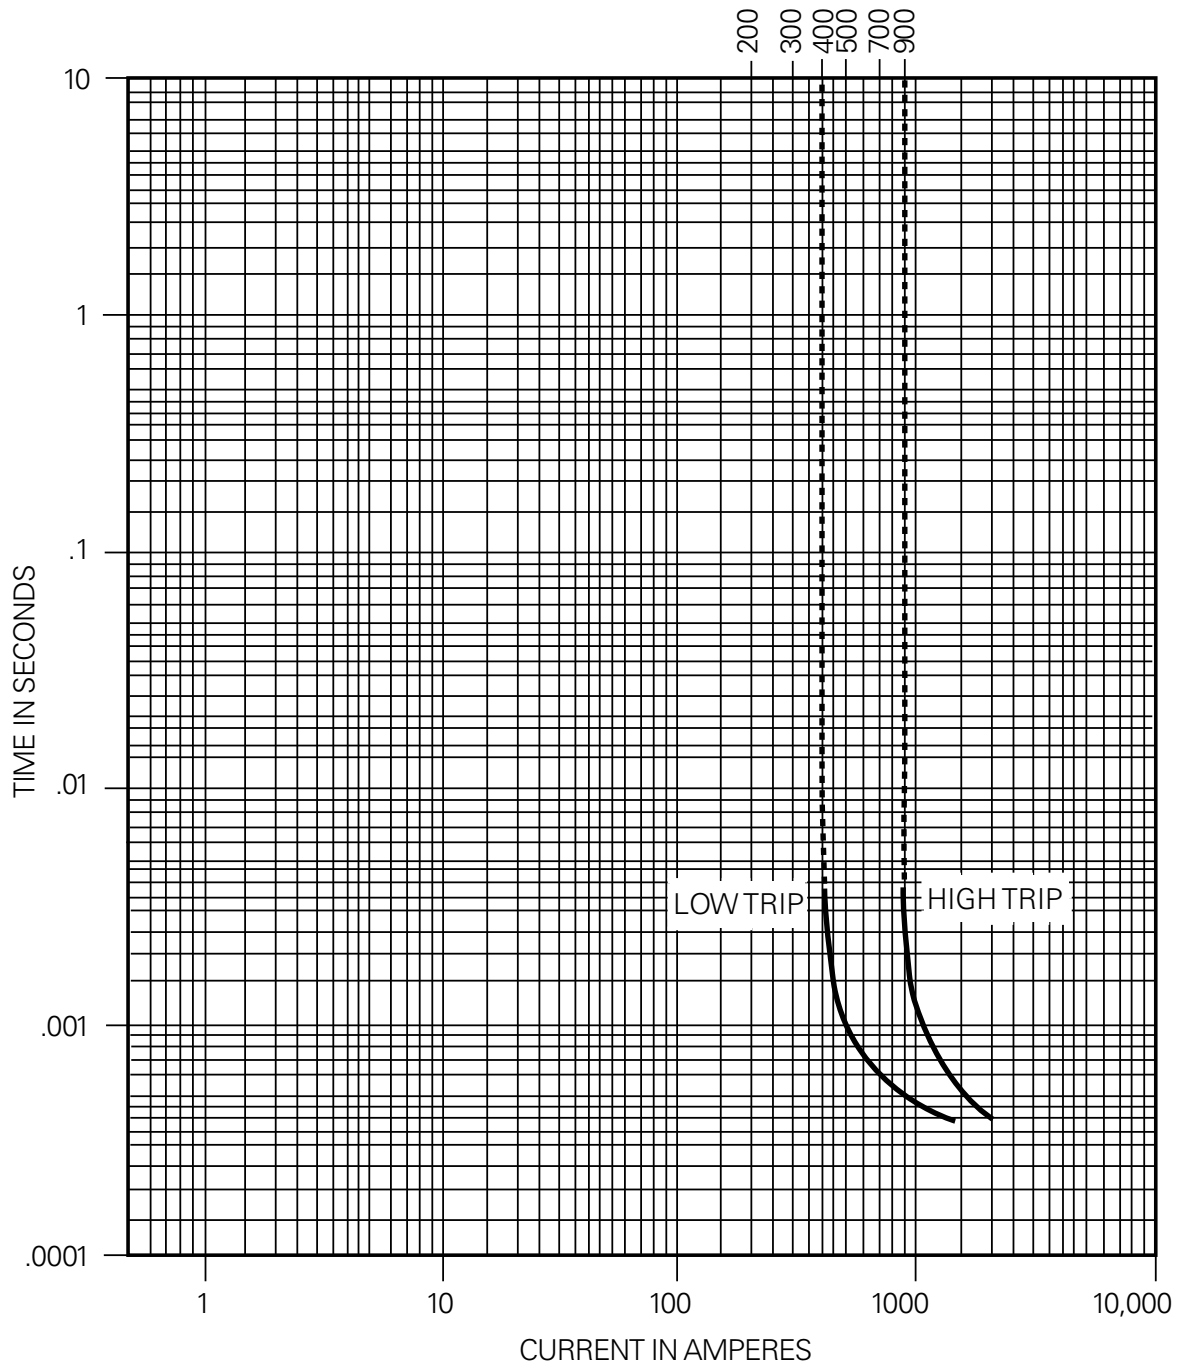

Figure 3. LVR faulted circuit indicator response curve* developed on a 1.2 inch (30.5 mm) cable.
The quick response time of the low voltage reset S.T.A.R. faulted circuit indicator allows easy coordination with current-limiting fuses (see Figure 3).
Trip Response Speed	Response Curve, Figure 3
* Per Figure 3, for a 1.2 inch diameter cable the low trip rating is 400 A and the high trip rating is 900 A. The curves will shift for various cable diameters.